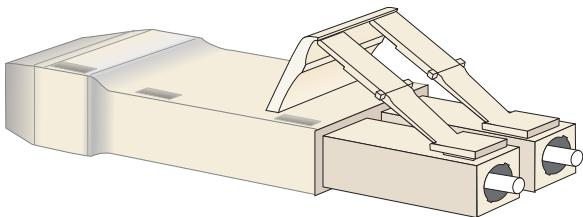

Figure 3 Loopback plug
- Loopback plug—An SFP multi-mode (shortwave laser) or single-mode (longwave laser) loopback plug as shown in Figure 3 is required to perform port loopback diagnostic tests. One loopback plug is shipped with the switch, depending on the type of port transceivers installed. Both plugs are shipped if shortwave laser and longwave laser transceivers are installed.